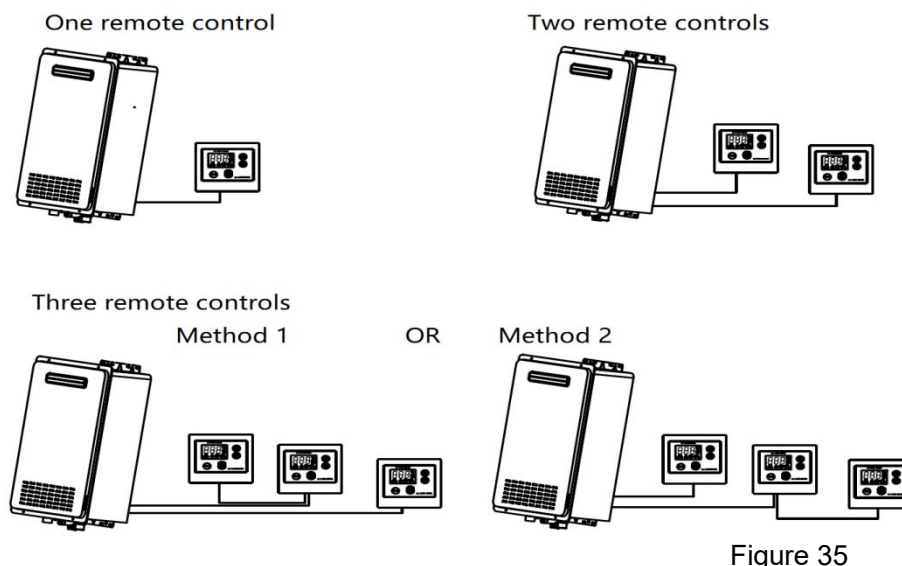

Figure 35
5. A single ONSSEN water heater is capable of connecting with a maximum of 3 remote control units installed at any one time. Controlling priority can be reassigned to any one of the remote controls. The installation is parallel connection regardless of polarity as shown in Figure 35.